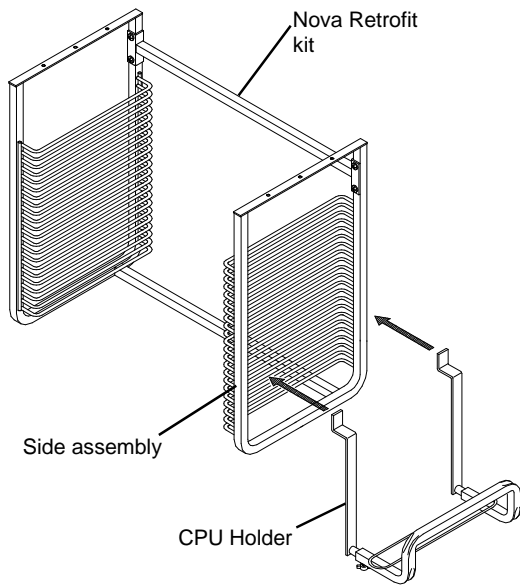

Figure 1
1. Install the CPU Holder as shown in **Figures 1 and 2.**